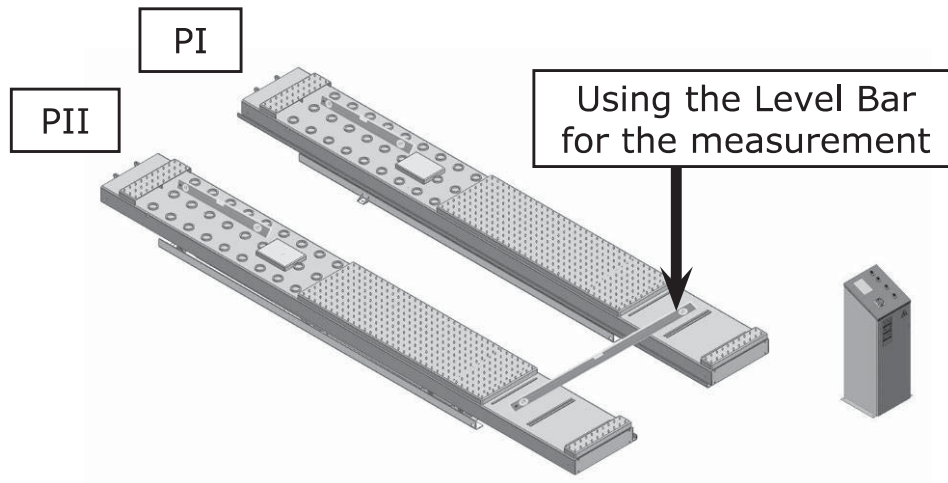

Fig. 23
1. Check by level bar and use the shim to adjust the platforms until two platforms are in the same level (**See Fig. 23**).